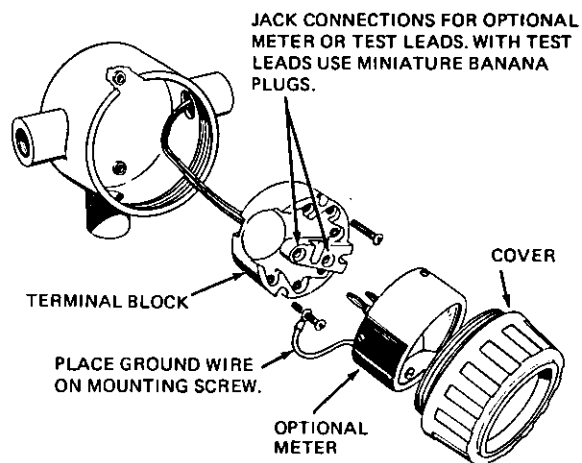

Figure 5
1. Unscrew cover and lift out meter (Figure 5).